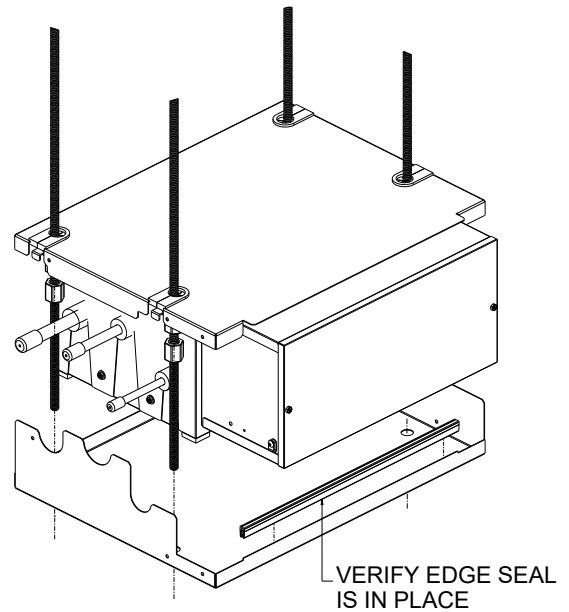

**FIGURE F.3**
- 1.4** Install the bottom panel (Item 3) by aligning the 4 cut outs in the bottom panel with the ends of the 4 thread rods and bringing the panel into contact with the rubber cubes installed to the bottom of the Valve Box. (Refer to Figure F.3)